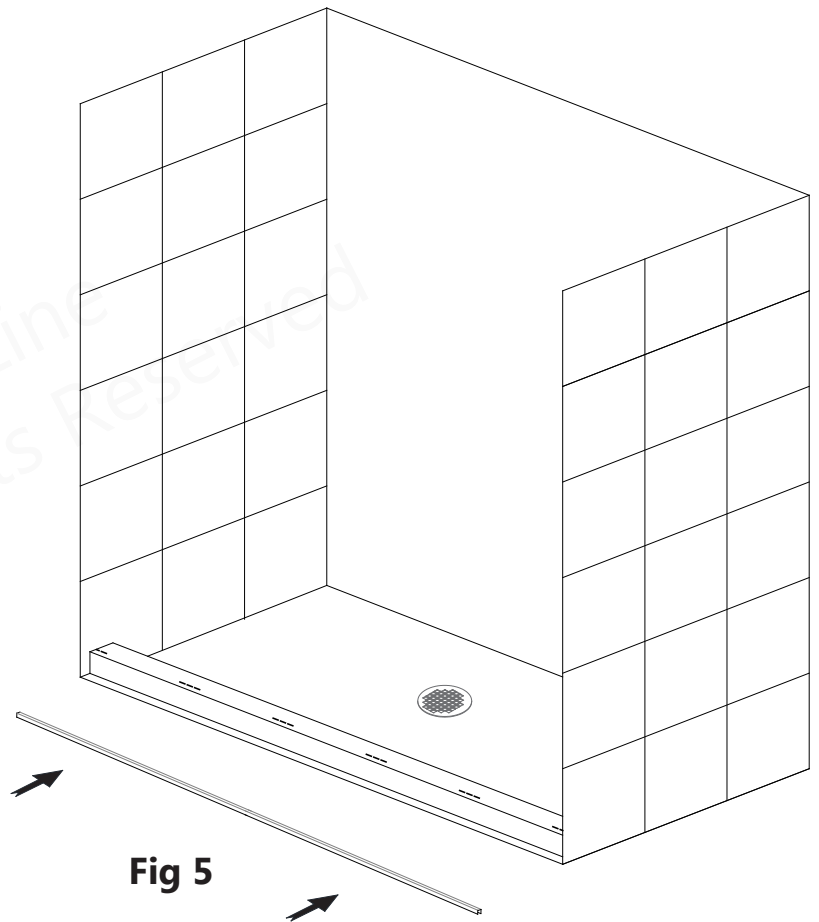

Fig 5
5. Replace the **Bottom Rail (#08)** onto the **marked position** on the threshold. **(Fig 5)**